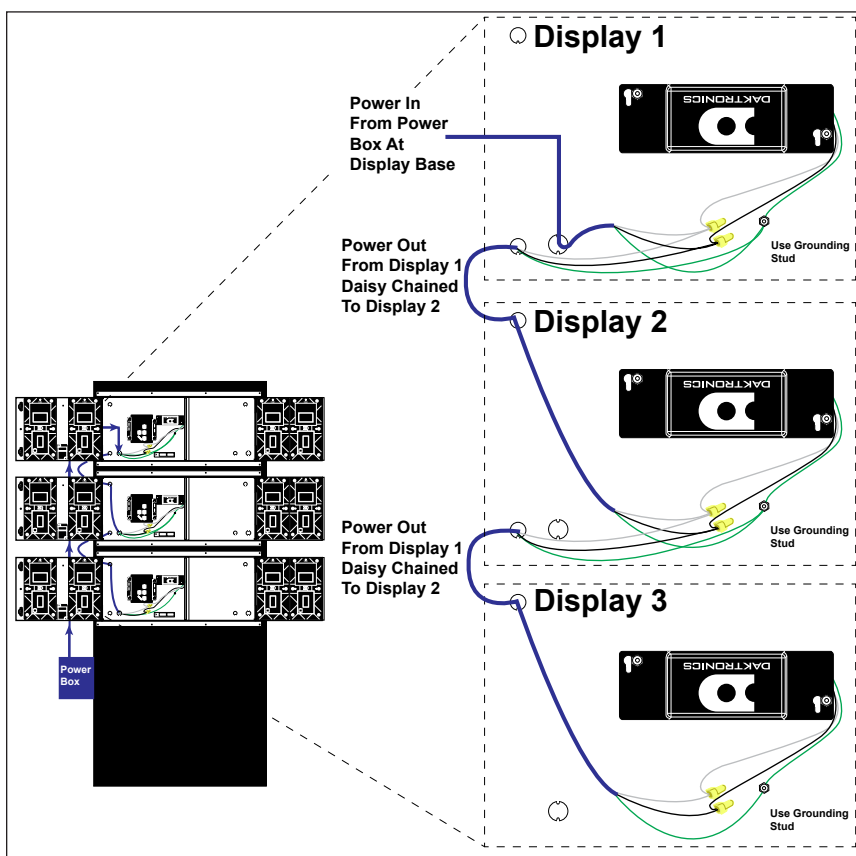
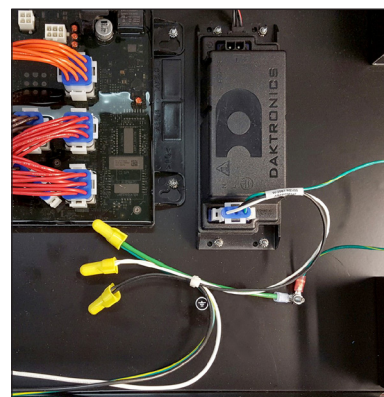

Figure 3: Proper Grounding for Multiple Fuelight Displays
Figure 4: Power Connection With Grounding Stud
Install Daktronics Fuelight™ displays using a two wire plus ground circuit. The ground from the circuit must be connected to the ground bus bar or green wire attached to the grounding stud within each Fuelight display. Refer to **Figure 3**. Do not connect neutral to ground at the disconnect or at the display, this would violate electrical codes and void the warranty. Use a disconnect so that all ungrounded conductors can be disconnected.
2. Use wire nuts or other appropriate hardware to connect power wires - hot (black) and neutral (white) - to the power supply harness or pigtail. Refer to **Figure 3** and **Figure 4**.
3. Connect supply power ground wire to the grounding stud. Refer to **Figure 4**.